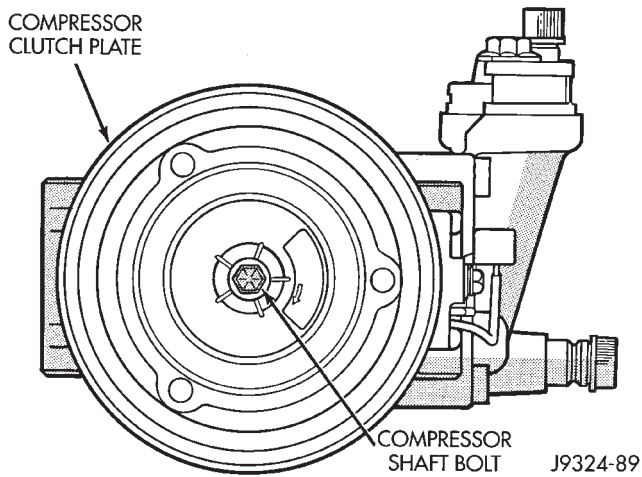

Fig. 1 Compressor Shaft Bolt and Clutch Plate
- (1) Disconnect the negative cable from the battery.
- (2) Remove the compressor shaft bolt (Fig. 1). A band type oil filter removal tool can be placed around the clutch plate to aid in bolt removal.